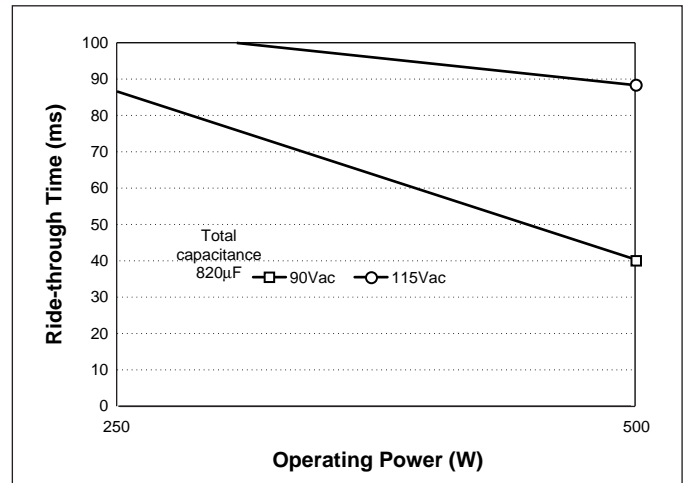

Figure 15—Ride-through time vs. operating power
**Determining Ride-through Time.** Figure 15 illustrates ride-through time as a function of line voltage and output power, and shows that at a nominal line of 90Vac, ride-through would be 68ms. Ride-through time is a function of line voltage.